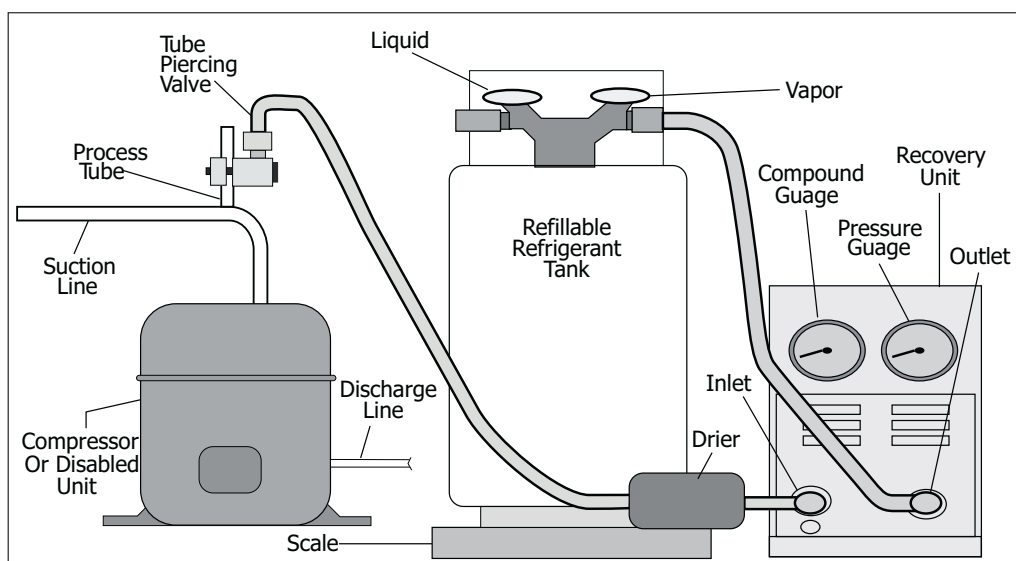

Figure 6-5. Diagram of Recovery Equipment
2. Attach an approved self tapping line tap valve to the process tube. Connect refrigerant recovery system to tap valve. Turn on recovery system, open the line tap valve, and allow refrigerant to flow into an approved tank. (See Figure 6-5)